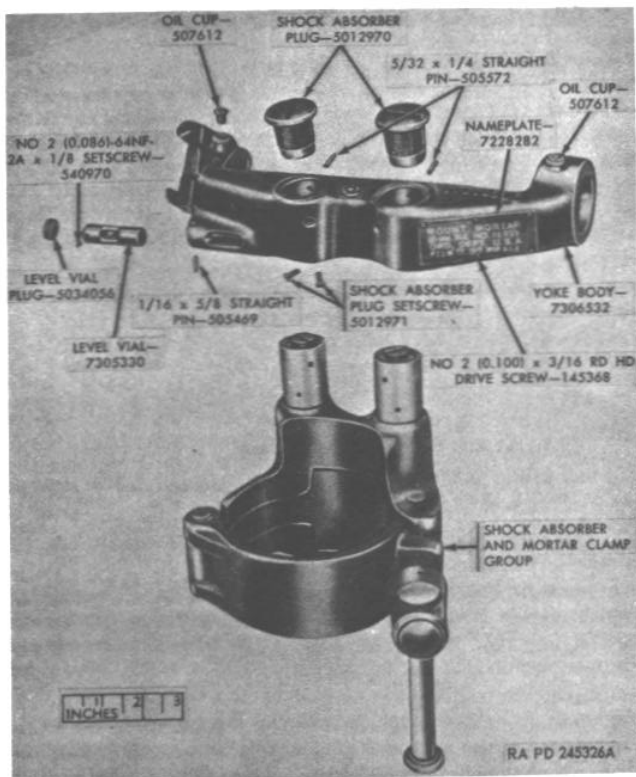

Figure 39. Shock absorbers, mortar clamp, and yoke assembly group.
a. Unscrew the two shock absorber plug setscrews and shock absorber plugs from yoke body (mark to facilitate assembly) and then pull shock absorber and mortar clamp group away from yoke body (fig. 39).
b. Level vial should not be removed, unless necessary. To remove, drive out straight pin and unscrew level vial plug, loosen adjusting setscrews of level, and remove from yoke body (fig. 39).
f. Inspect level vial (fig. 39) for damage and indistinct markings.
g. Check the dovetail sight seat of the yoke for damage (fig. 39).
d. Assemble shock absorber and mortar clamp to yoke body so that slots in guides engage pins in yoke (fig. 39). Screw in shock absorber plugs in yoke body until holes align and secure with setscrews (fig. 39).
e. If level vial was removed, insert level vial in yoke body so that level window is aligned with viewing hole and tighten adjusting setscrews (fig. 39) so bubble of level vial is centered with horizontal line of traversing spindle holes. Screw in level vial plug with hole aligned with hole in yoke and drive in 1/16 x 5/8 straight pin (fig. 39).